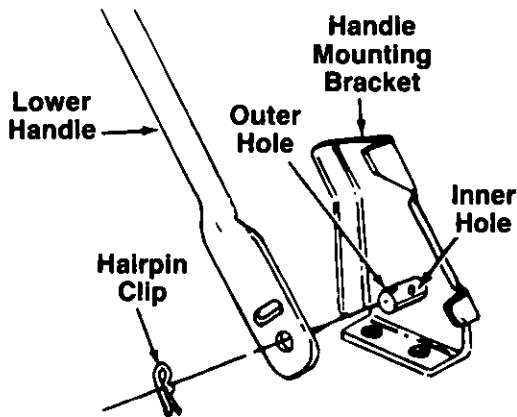

FIGURE 1.
2. Using a pair of pliers, squeeze one leg of the lower handle against the handle mounting bracket. Insert the hairpin clip into the inner hole in the weld pin. See figure 1. Repeat on other side.
**NOTE:** There are two (2) holes in the handle mounting brackets. Place the hairpin clip in the inner hole for operation. Outer hole is for storage.